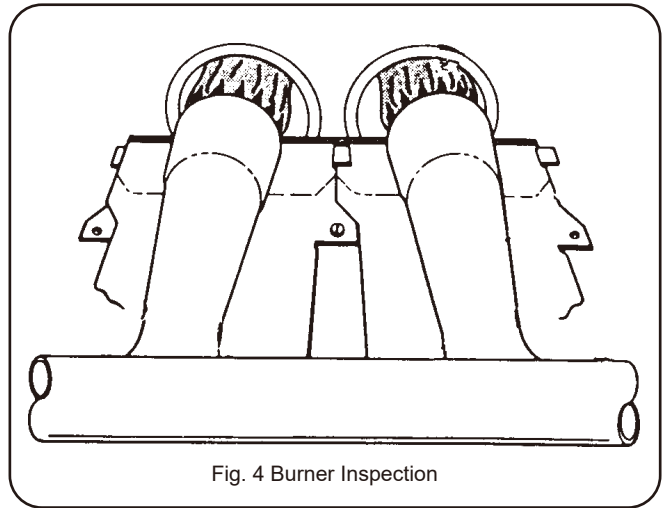

Fig. 4 Burner Inspection
7. After the flame ignites, visually inspect the burner assembly to ensure that the flame is drawn directly into the center of the heat exchanger tube, as shown in Fig.4. The end of the flame will be out of sight around the bend of the heat exchanger tube. In a properly adjusted burner assembly, the flame color should be blue with some light yellow streaks near the outer portions of the flame.